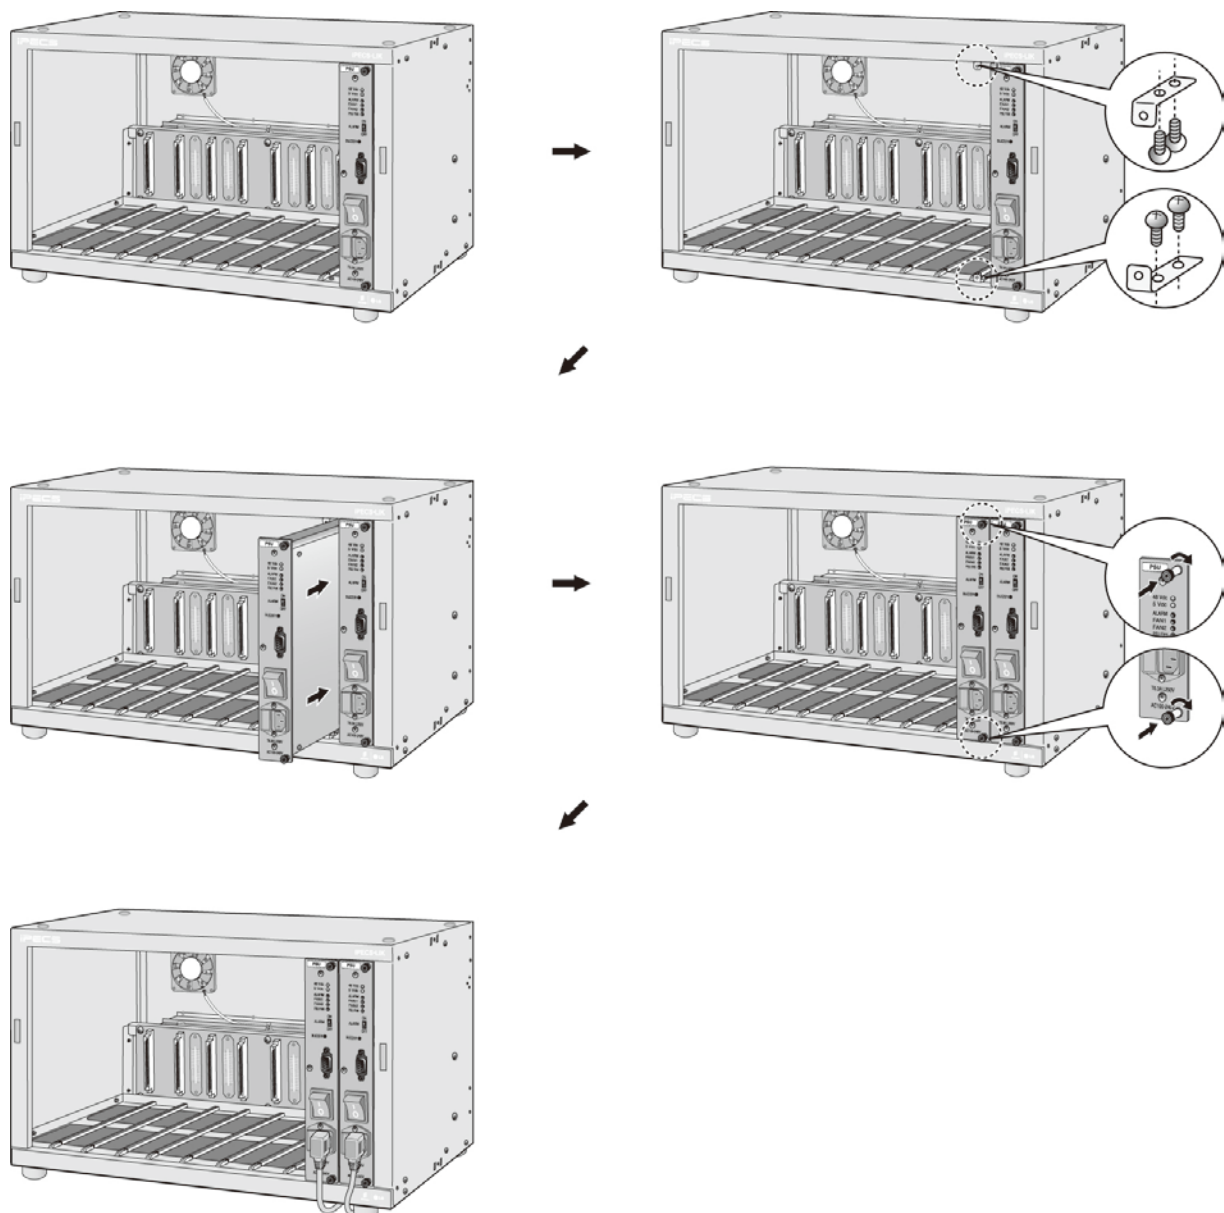

Figure 4.4-2 Back-up PSUs Installation
The back-up PSU for power redundancy is installed as described below and shown in Figure 4.4-2.
- Install upper and lower PSU thumb-screw brackets to the right of slot 9 slides of the cabinet as shown in Figure 4.4-2 using the screws provided.